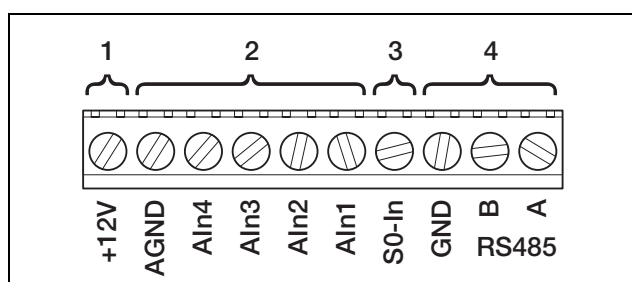

Fig. 61: Cable terminal
- Connect the lines to the terminal according to the terminal assignment (figure 61 and table 9).
Connections for the serial **RS485 interface** are found **on the terminal for analogue interfaces (figure 61)**. Using RS485, up to 200 inverters – depending on the inverters used – can be connected.
- Connect the lines to the terminal (4 in figure 61) according to the terminal assignment (table 6).